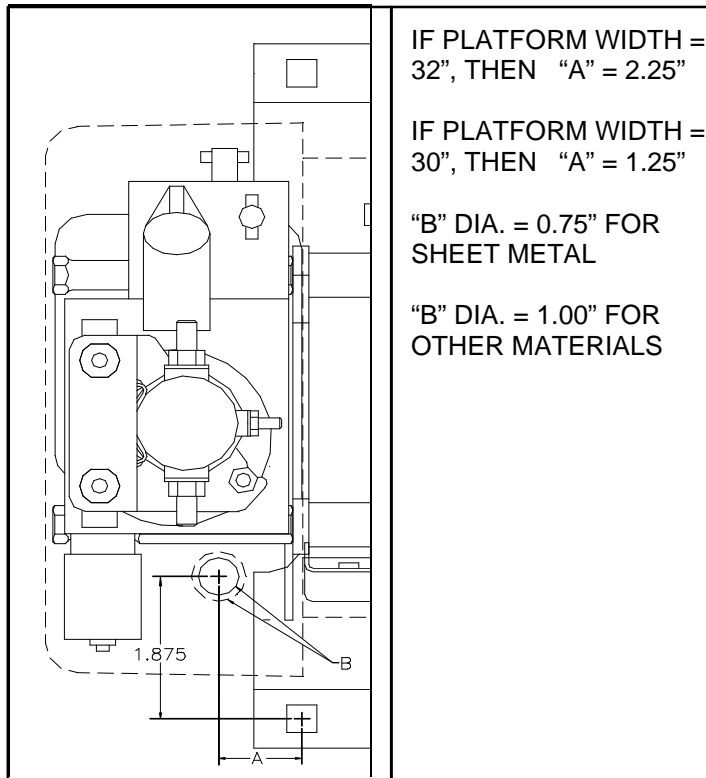

FIGURE 2-10: POWER CABLE ACCESS HOLE
- a. Refer to **Figure 2-10**. Locate and drill a hole through the vehicle floor near or under the pump cover so the power cable may reach the positive pole of the solenoid, the side opposite to where the solenoid is connected to the pump motor. The hole should be drilled so that it will be hidden by the pump cover.